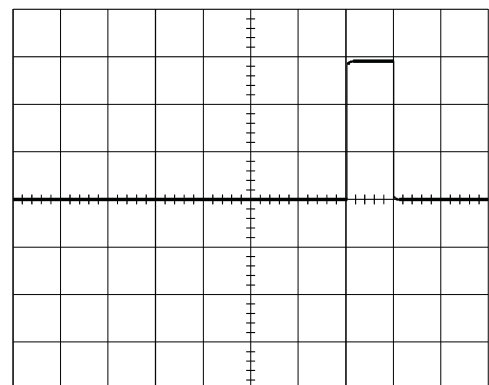

Figure 4
- Note 1:** The FS signal's pulse should be one division wide as shown in Figure 4. If it's not, adjust the function generator's output frequency until it is.